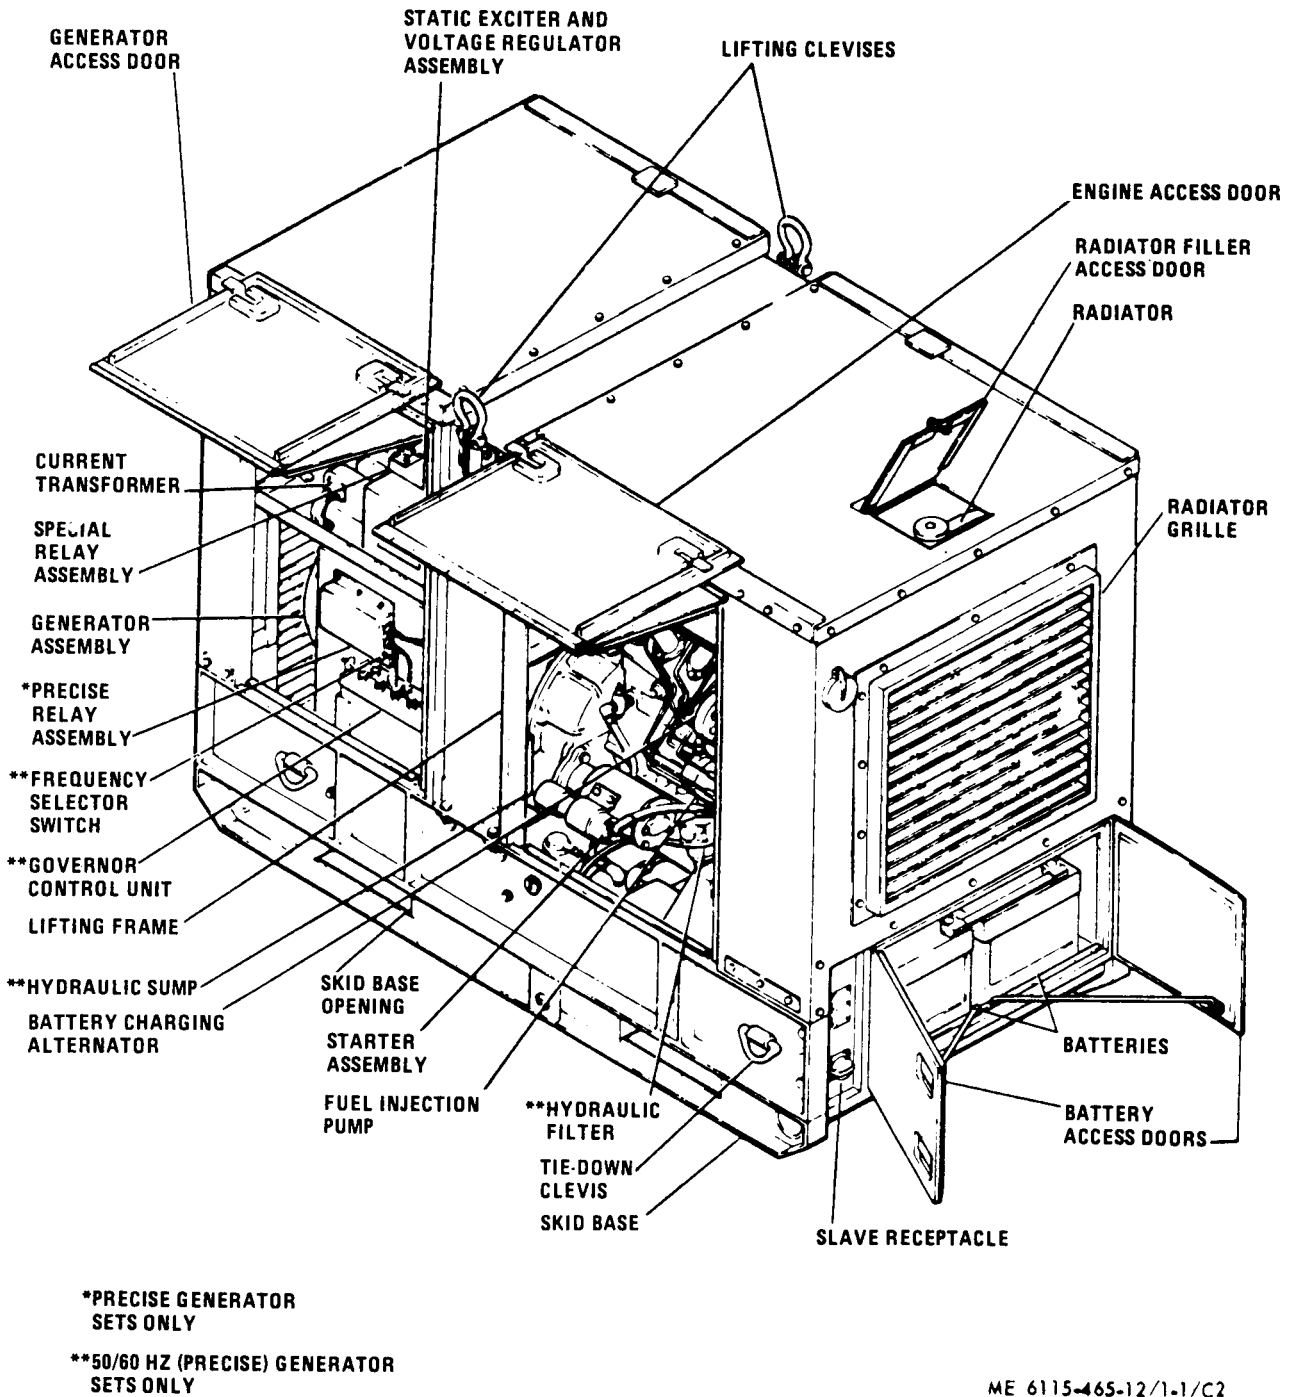

Figure 1-1. Engine Generator Set Right Front
a. General. The generator sets, models MEP-005A, MEP-104A and MEP-114A (figures 1-1, 1-1.1 and 1-2) are fully enclosed, self-contained, skid mounted, portable units. They are equipped with controls, instruments and accessories necessary for operation as single unit or in parallel with one or more units of the same class and mode. Each set is equipped with engine oil pan heating elements and necessary connections for field installation of winterization kits. Lifting clevises for hoisting the generator set are located at the top of the lifting frame and center support assembly. Tubular cross members, that will accept a chain, have been provided at the front and rear of the skid base assembly to permit towing or short distances. Mobility of the units may be obtained by mounting on trailers or equipping with a wheel mounting kit. To extend the capability of the generator sets, they have also been designed to accept and operate with the following optional kits:
(1) Fuel Burning Winterization Kit (paragraph 4-3).
(2) Electric Winterization Kit (paragraph 4-9).
(3) Wheel Mounting Kit (paragraph 4-15).
(4) Load Bank Kit (paragraph 4-20).
(5) Automatic Transfer Panel 50/60 Hz: Monitors 50/60 Hz